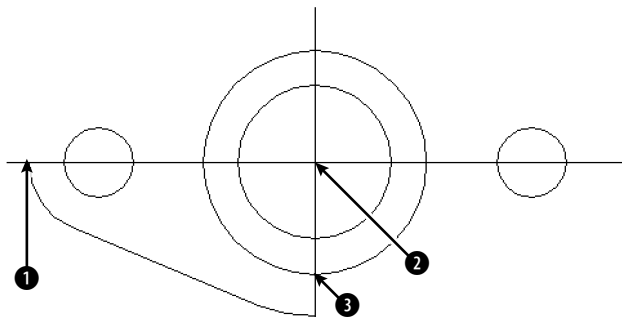

Figure 10-1: A partially completed mounting plate.
3. Choose Erase on the Modify toolbar. At the Select objects: prompt, pick the line and two arcs to the bottom-right of the two centerlines and then press Enter. The resulting model should look like Figure 10-1.
5. At the Specify first point of mirror line: prompt, pick intersection **1** in Figure 10-1. At the Specify second point of mirror line: prompt, pick intersection **2**.